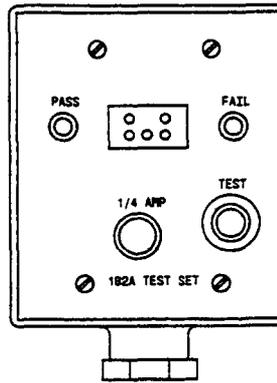
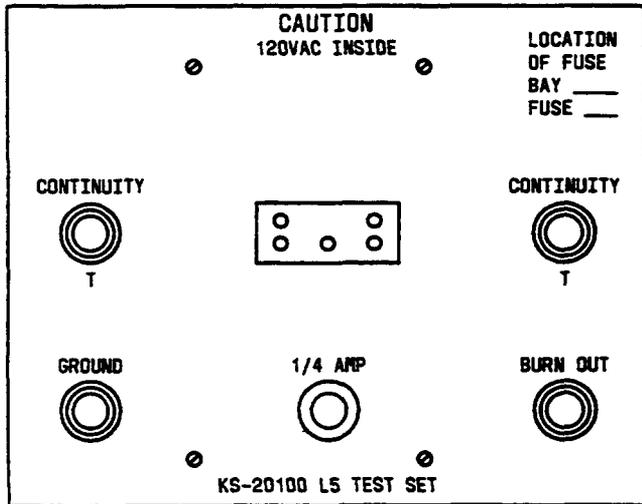

Figure 18—182A Test Set
Figure 17—KS-20100, L5 Test Set
5.04 Before installing the 3-, 4-, or 5-type protector units onto the connectors, each unit may be tested. The KS-20100, L5 test set (Figure 17) is used to test for the presence or absence of tip and ring continuity and ground and also provides a burnout feature to clear protector units shorted by carbon or dust particles. The 182A test set (Figure 18) is used to test the minibridge lifter protector units for tip and ring continuity and for shorted protector blocks. It also tests the function of the 410A switch contained in the protector unit. For the test procedures, see AT&T 201-208-100.